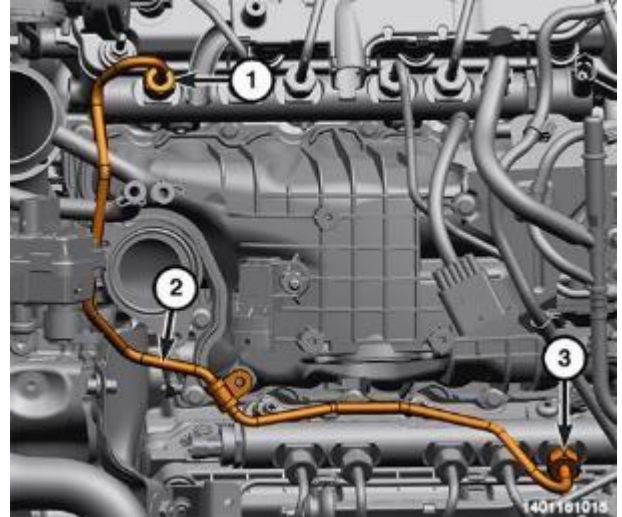

Figure 34 – Crossover Tube
- 65. Unscrew the union nuts (1, 3) and remove the fuel crossover tube (2) and discard (Figure 34).